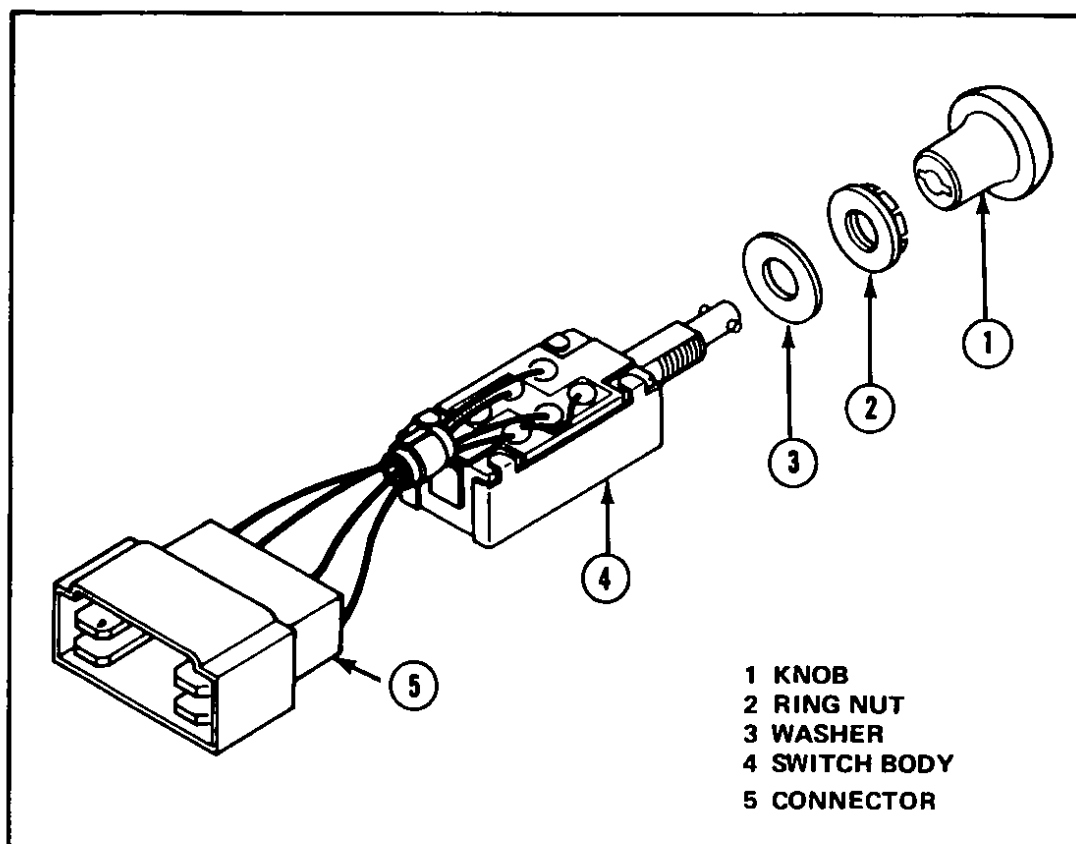

Fig. 88 Light switch - Model B210
- 2 Depress the switch knob and turn it counterclockwise. Knob can then be easily taken out, Fig. 88